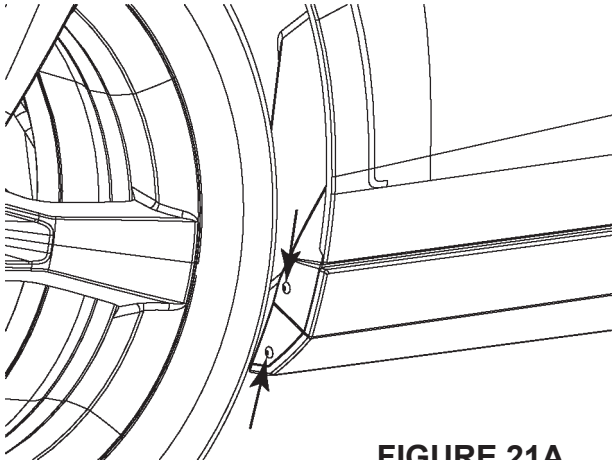

FIGURE 21A
3. (Left hand side) Remove 2 screws from the front and 2 screws from the rear wheel well using T15 Torx screw driver. Keep for use in step 14. Refer to figure 21a & 21b.